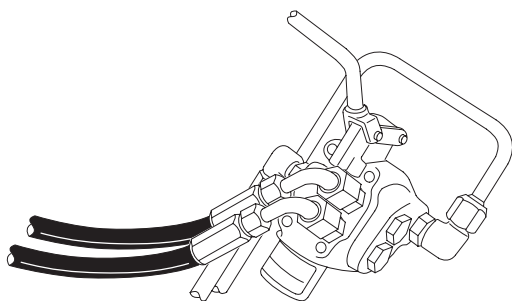

Figure 4
14. Connect hydraulic hose assemblies to fittings on front of control valve (Fig. 4). Make sure O-rings are in position. Install protective sleeve over hoses. Remainder of installation will be completed after hopper frame is installed.